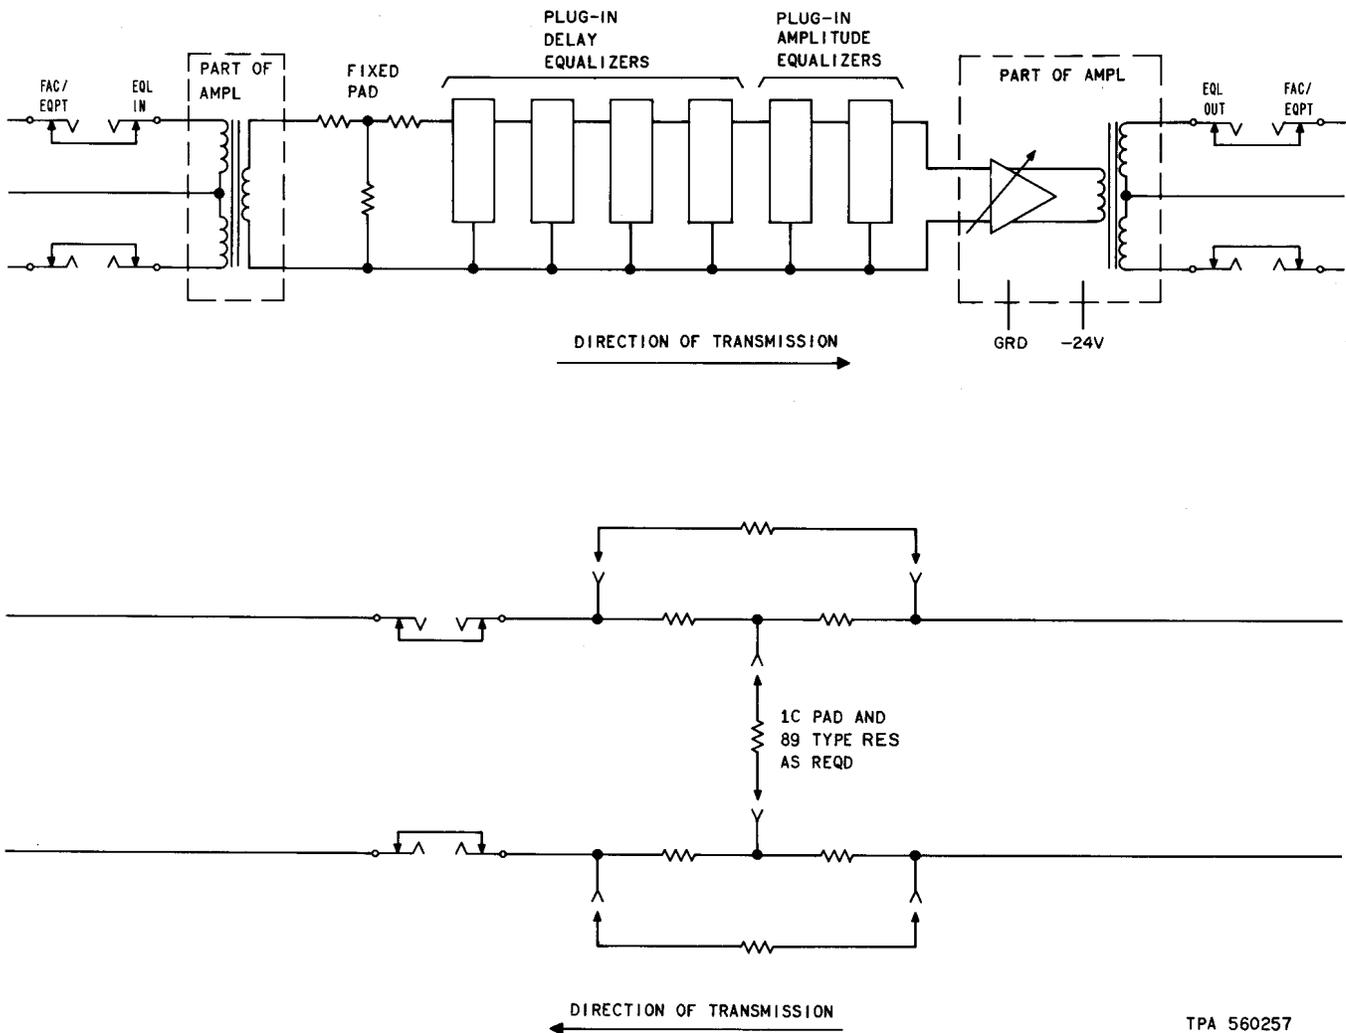

Fig. 4—Block Diagram of Equalizer Mounting Shelf
**2.02** One equipped mounting shelf provides delay and attenuation equalization for one direction of transmission, as shown in Fig. 4. The opposite direction of transmission can be equipped with a 1C pad and 89-type resistors for level adjustment on an optional basis.
**2.05** Electrically, part of the 227-type amplifier provides a 600-ohm impedance input transformer to the unbalanced (grounded) equalizers (Fig. 4). A following fixed pad improves the termination presented to the incoming line and to the equalizers. After equalization, the 227-type amplifier compensates for losses in the transformer, the fixed pad, and the equalizers, and provides a balanced output. The amplifier is adjustable over three ranges to provide up to 36 dB gain over the voice-frequency band.